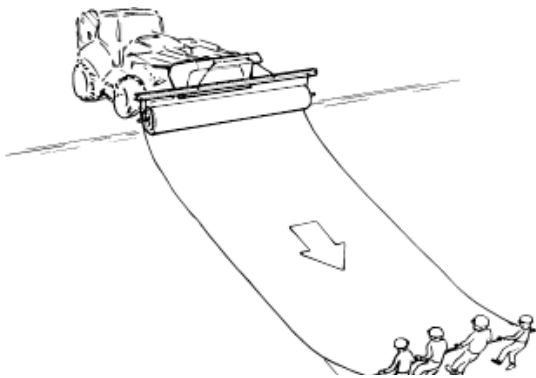

Fig. 7: Unrolling Claymat GCL
3. If sufficient access is available, **Claymat GCL** may be deployed by suspending the roll at the top of the slope, with a group of laborers pulling the material off of the roll, and down the slope (Figure 7).